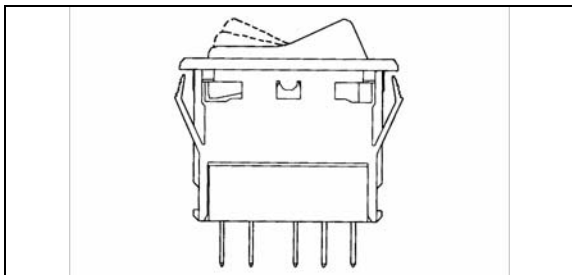

FIGURE 64: SWITCH
3. To install a new switch, reverse the procedure (Fig. 64).